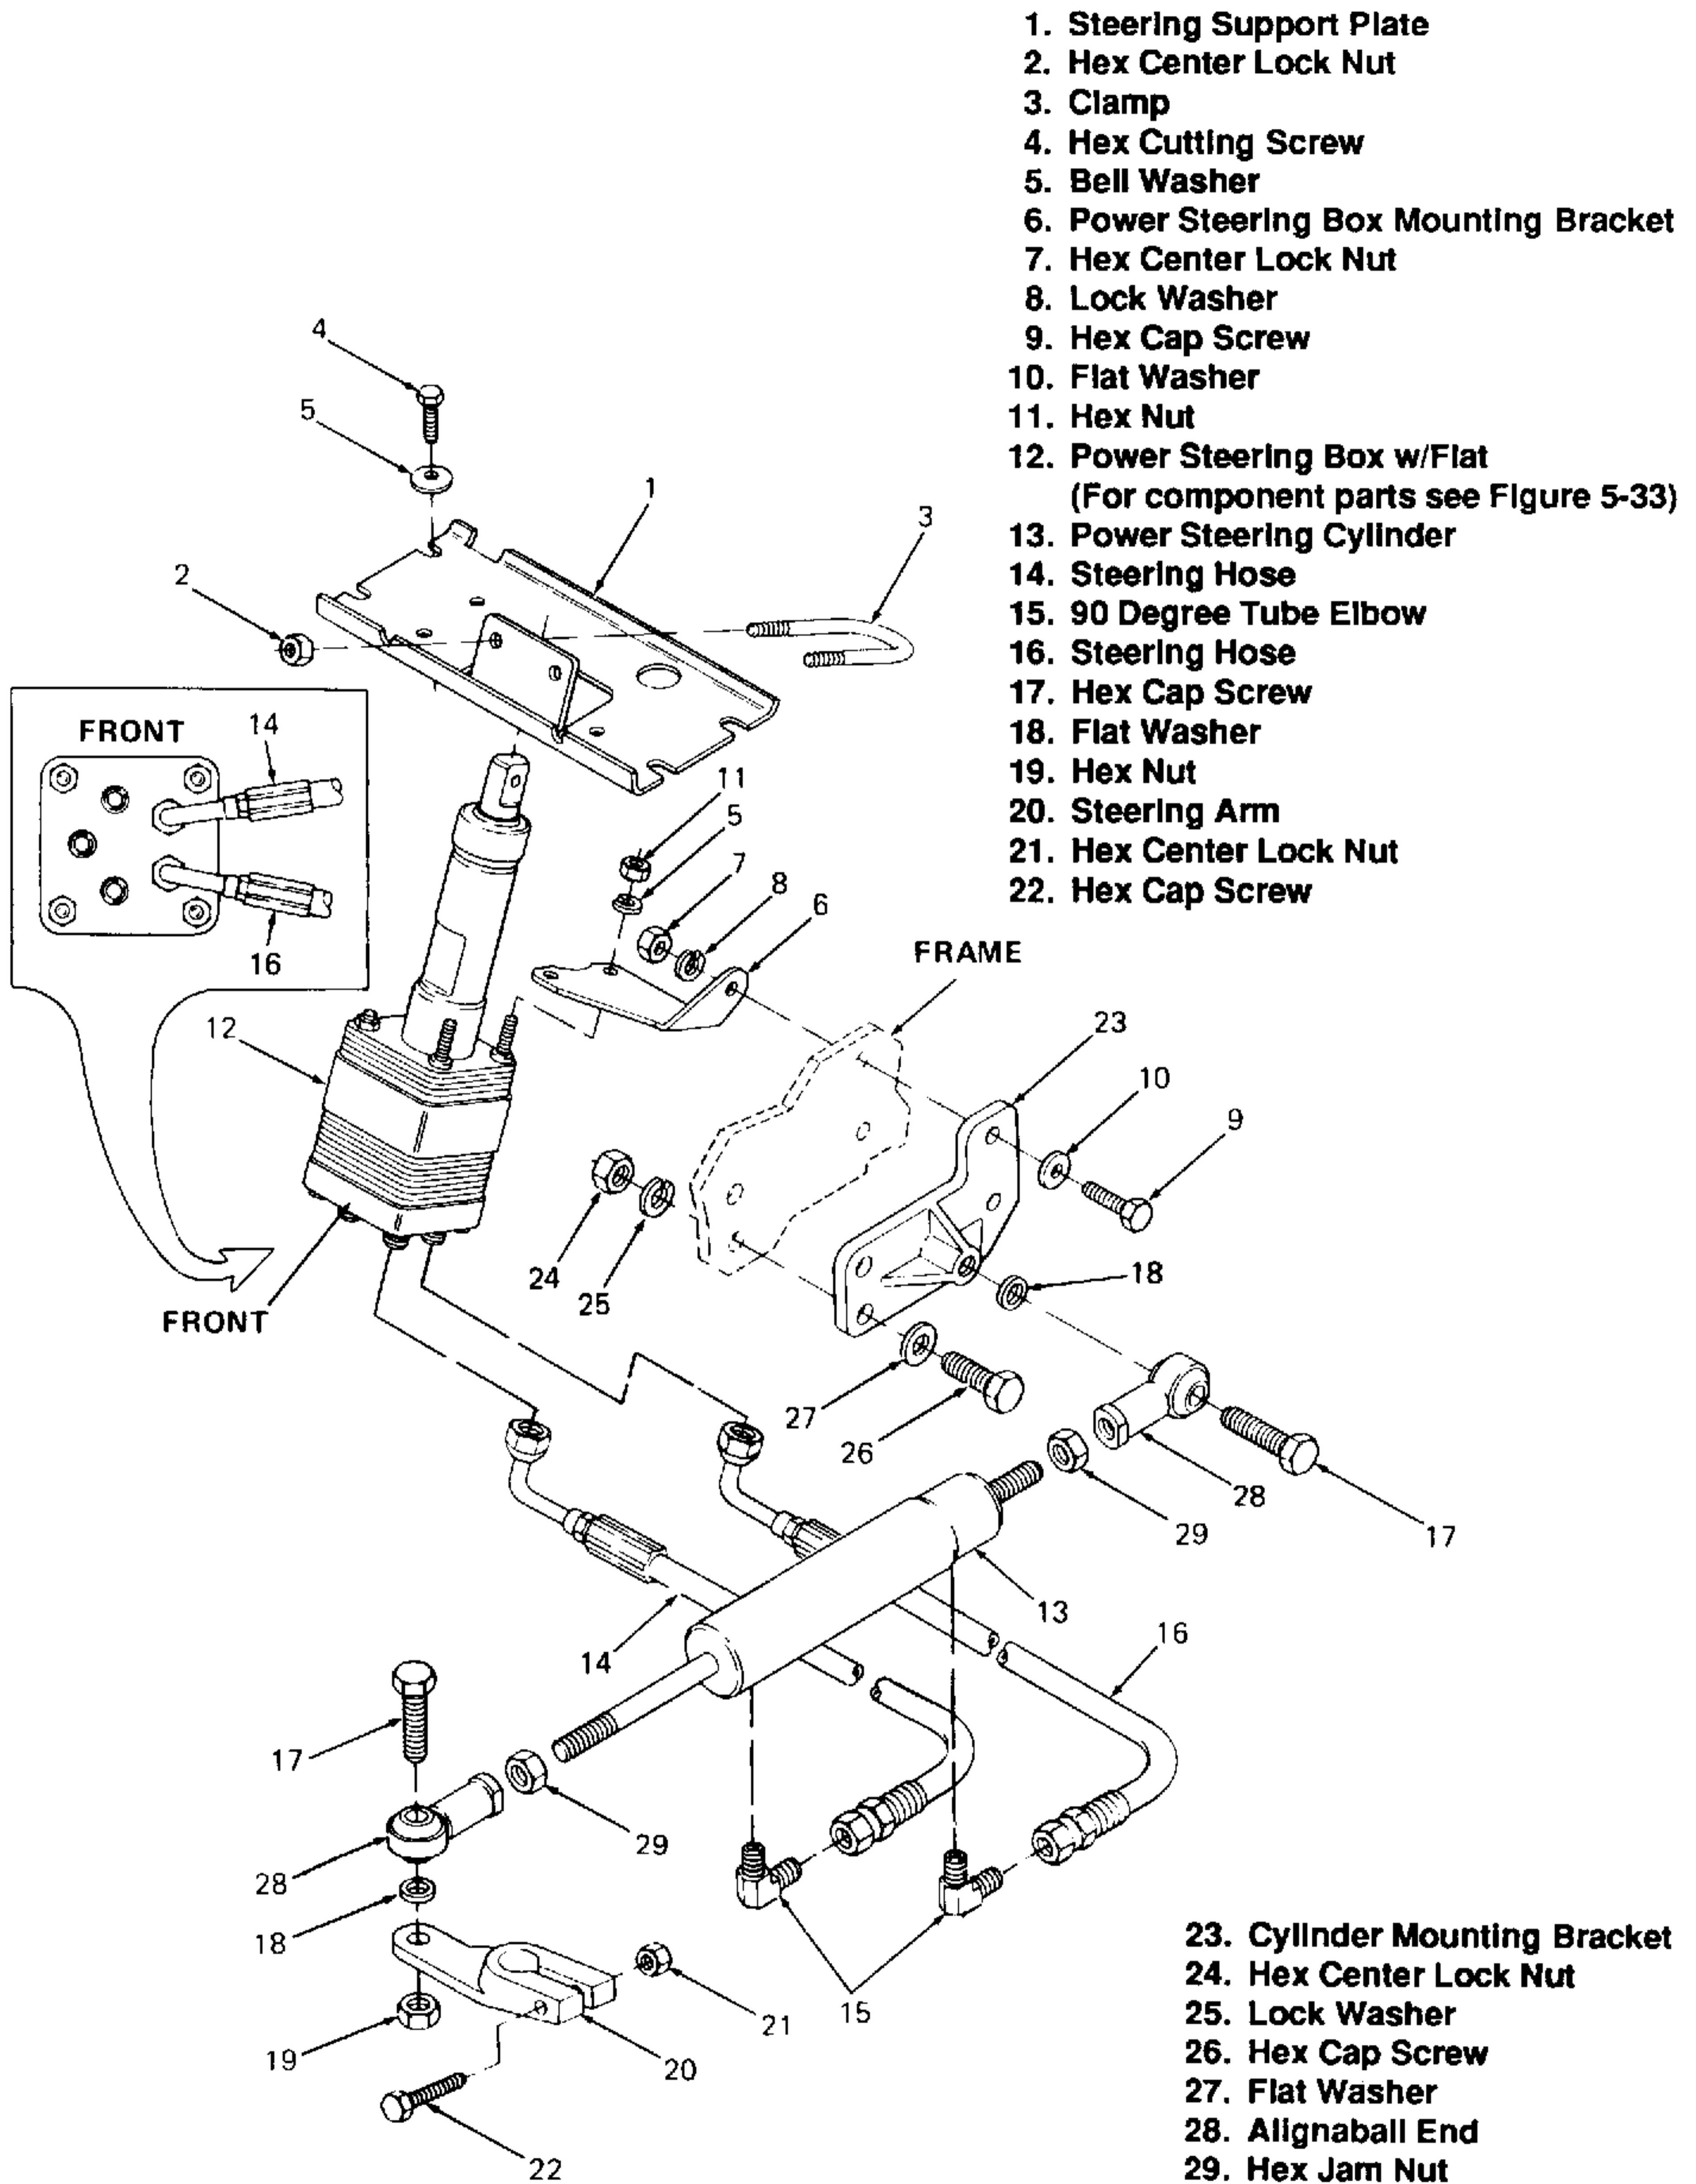

Figure 5-39. Steering Mounting, Power Steering Cylinder and Hydraulic Lines (Models 1782, 1882, 2082 and 2182).
5. Remove steering support plate (1, Figure 5-39) as follows:
- a. Remove hex center lock nut (2) and clamp (3).
- b. Remove hex cutting screws (4) and bell washers (5) and lift out support plate.
6. Remove power steering box mounting bracket (6) as follows:
- a. Remove bracket from frame by removing hex center lock nut (7), lock washer (8), hex cap screw (9) and flat washer (10).
- b. Remove bracket from power steering box (12) by removing hex nut (11) and bell washer (5).
7. Remove power steering cylinder (13) as follows:
- (1) Attach hoses to power steering box (12) by tightening nuts on end of hoses. Refer to Figure 5-39 for proper placement of hoses.
- (2) Attach hoses to power steering cylinder by tightening nuts on end of hoses onto 90 degree tube elbows (15). Refer to Figure 5-39 for proper placement of hoses.
4. Install power steering box mounting bracket (6) as follows:
- a. Install bracket onto power steering box (12) with bell washer (5) and hex nut (11).
- b. Install bracket onto frame with flat washer (10), hex cap screw (9), lock washer (8) and hex center lock nut (7).
5. Install steering support plate (1) as follows:
- a. Position plate, and secure with bell washers (5) and hex cutting screws (4).
- b. Install clamp (3) and hex center lock nuts (2).